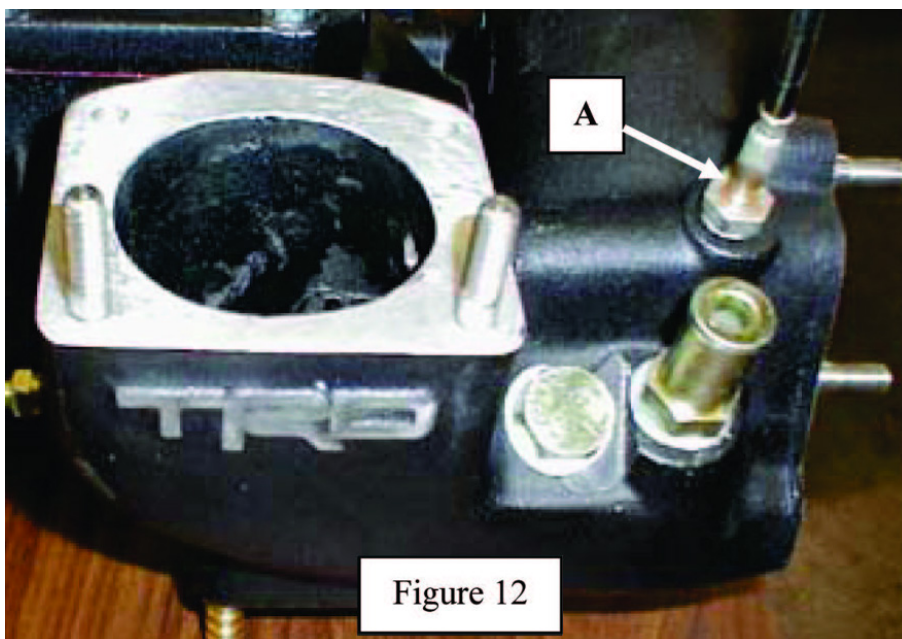

Figure 12
1.) Install the EGR temperature sensor (Arrow A) to the intake chamber. (See Figure 12)
7.) Re-install the EGR modulator bracket to the backside of the intake manifold using the OE bolt. (See Figure 12) Otherwise, install the M10x1.25x12mm bolt.